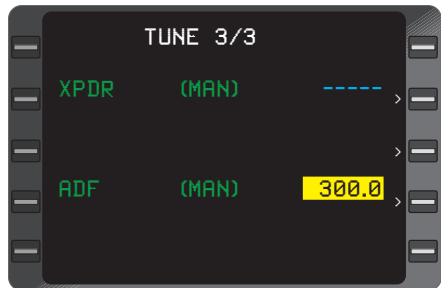

Figure 3-153
3. Code or Frequency - INSERT and verify new value.(Figure 3-153)